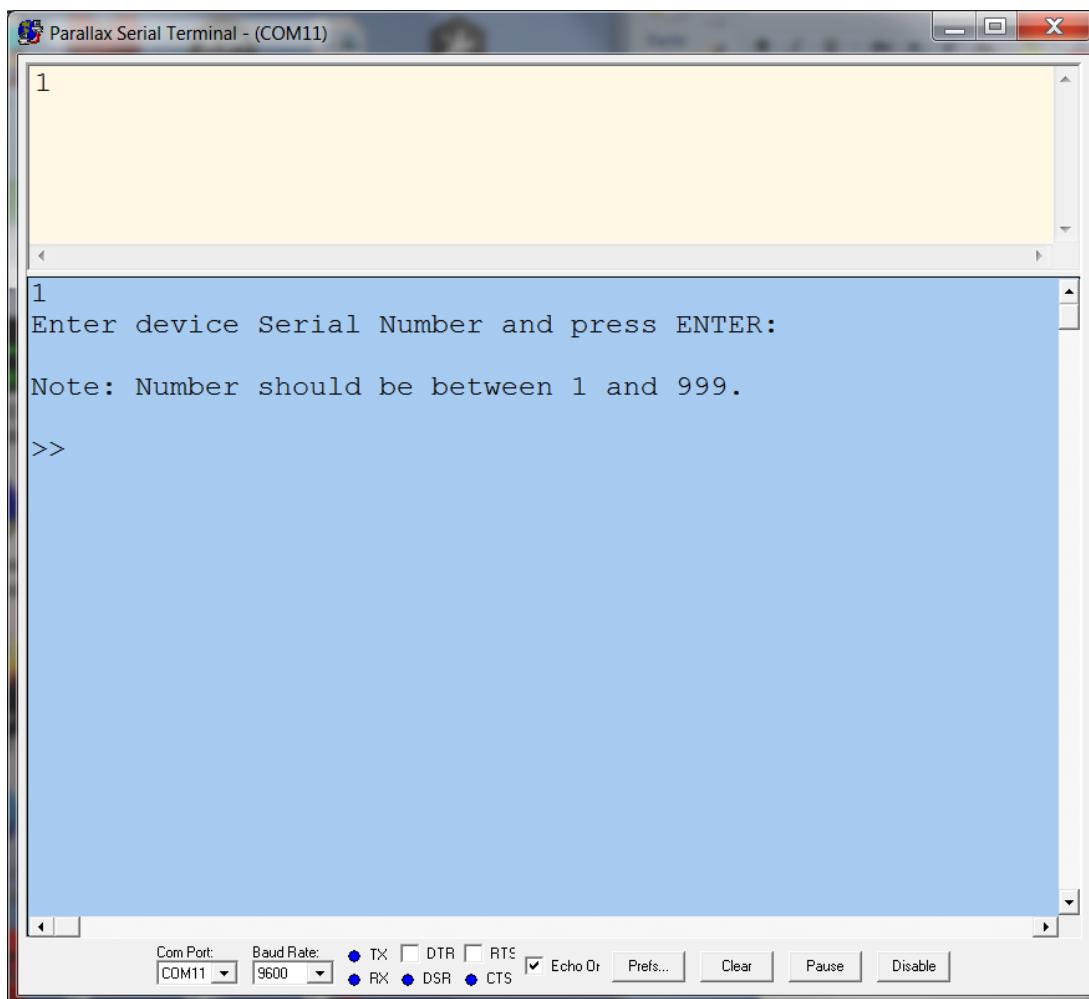

Figure 50: Entering a new control box serial number.
- f. Select menu item “1” and press the return key. A new menu should be displayed allowing the user to change the *EchoCal* Control Box serial number (Figure 50).